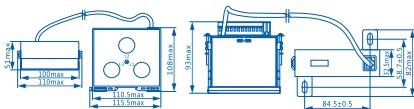

Figure 3 Outline and Installation Size of the Protector with Rated Current of 100A
3.2 Outline and installation size of the protector with rated current of 100A: see Figure 3, unit: mm.